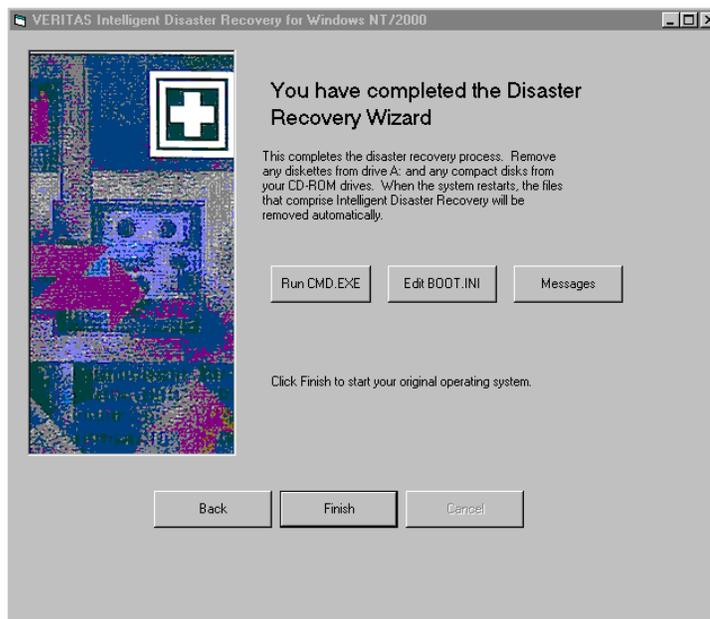

Figure 21: Intelligent Disaster Recovery Complete screen
11. The last wizard screen in the disaster recovery process is the Intelligent Disaster Recovery Complete screen shown in Figure 21. Eject the tape when this screen appears. Click Finish to end the disaster recovery process.